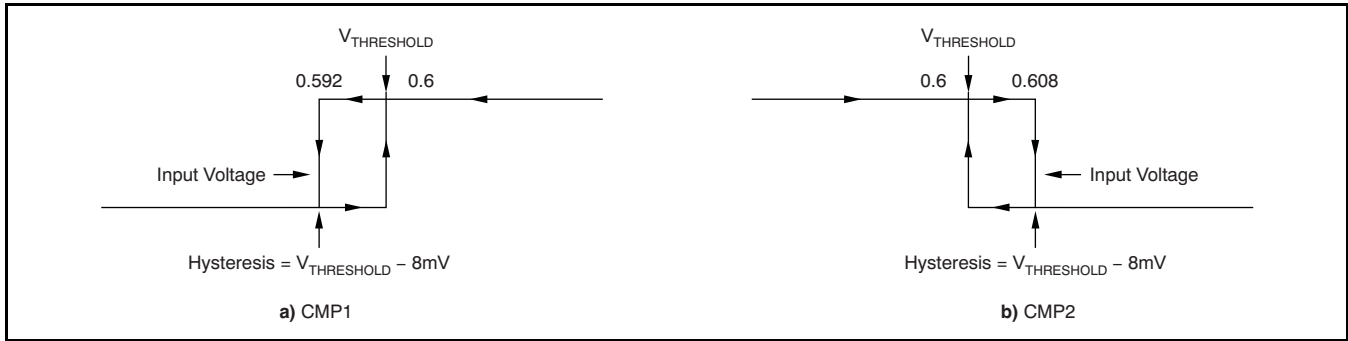

Figure 1. Comparator Hysteresis
- (1) Hysteresis refers to the threshold (the threshold specification applies to a rising edge of a noninverting input) of a falling edge on the noninverting input of the comparator. Refer to Figure 1.
- (2) Specified by design.
- (3) See the Comparator Maximum Input Voltage Range section in the Applications Information.
- (4) The comparator response time specified is the interval between the input step function and the instant when the output crosses 1.4 V.
- (5) RESET input has an internal 2M Ω (typical) pull-down. Leaving RESET open results in a LOW state, with transparent comparator operation.
- (6) The Comparator 2 delay applies to both rising and falling edges of the comparator output.